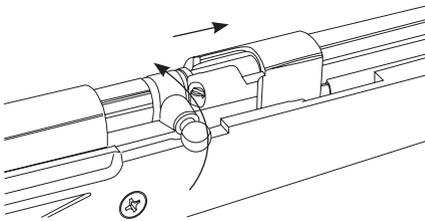

Fig. 9
- Rotate bolt handle clockwise and then push it forward. (Fig. 9)